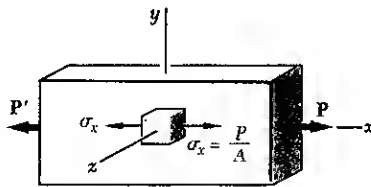

Fig 1.40. (a)
2.74 For a member under axial loading, express the normal strain ϵ' in a direction forming an angle of 45° with the axis of the load in terms of the axial strain ϵ_x by (a) comparing the hypotenuses of the triangles shown in Fig. 2.54, which represent respectively an element before and after deformation, (b) using the values of the corresponding stresses σ' and σ_x shown in Fig. 1.40, and the generalized Hooke's law.